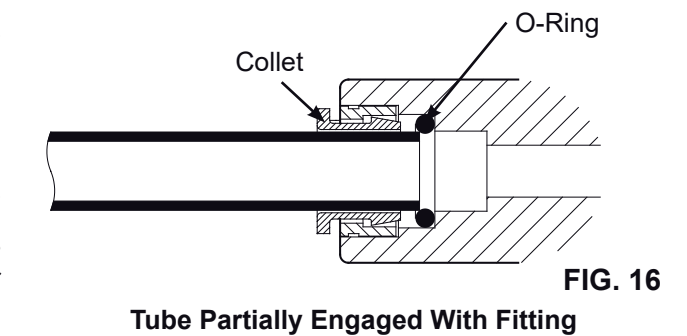
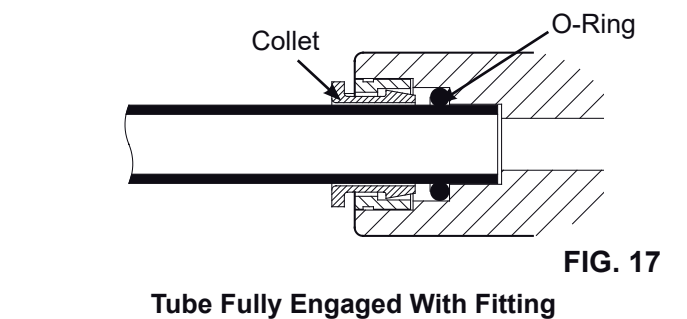
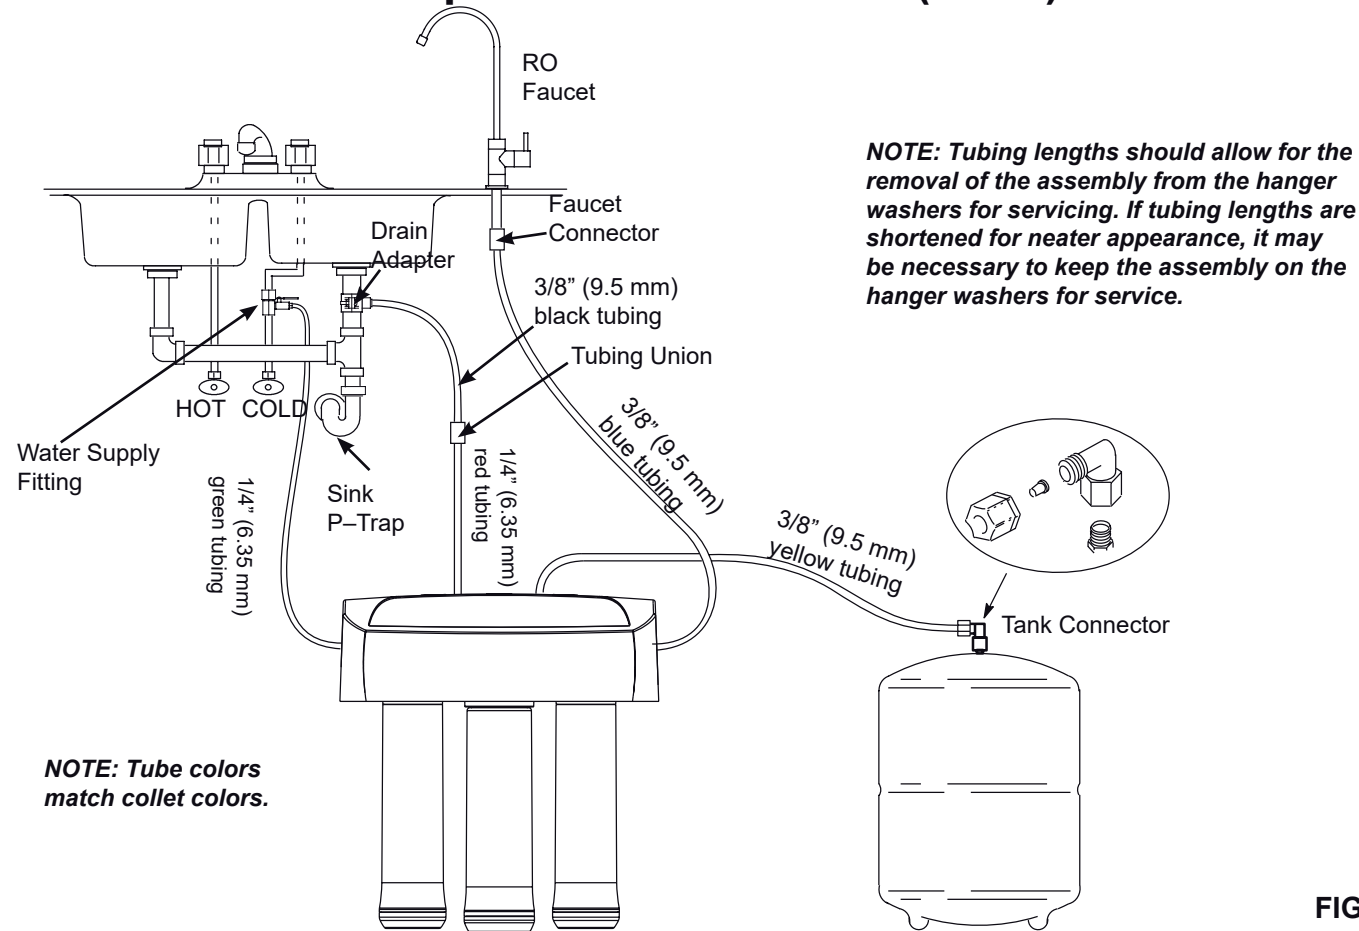

FIG. 16
FIG. 17
FIG. 20
1. Push tubing through collet, until it engages the o-ring. See Fig. 16. Continue pushing until the tube bottoms out against the back of the fitting. See Fig. 17. Do not stop pushing when the tube engages the o-ring. Failure to follow these instructions may lead to future leaks. When a 1/4" (6.35 mm) tube is fully engaged, 1.7 cm of the tube has entered the fitting. When a 3/8" (9.5 mm) tube is fully engaged, 1.9 cm of the tube has entered the fitting. Mark tube with a piece of tape or marker. See Figs. 16 & 17.
2. Route one end of the green tube to the water supply fitting on the cold water pipe. See Fig. 20.
7. Insert all the way into the fitting. See Figs. 16 & 17.
2. Route one end of the blue tube to the RO faucet connector. See Fig. 20.
4. Insert all the way into the faucet connector push-in fitting. See Figs. 16 & 17.
2. Route the other end of the red tube to a spot between the RO filter assembly and the drain point. See Fig. 20.
4. Insert all the way into the appropriate-sized (1/4") push-in fitting of the tubing union (Fig. 20). See Figs. 16 & 17.
6. Cut one end of tube square and insert all the way into the 3/8" push-in fitting of the tubing union. See Figs. 16 & 17.
7. Route the other end of the black tube to the drain adapter (Fig. 20). Cut this tube as needed to route it as straight as possible, without loops, dips, or kinks.
8. Insert all the way into the drain adapter's push-in fitting. See Figs. 16 & 17.
2. Route the loose end of the yellow tube to the fitting on top of the storage tank. See Fig. 20.